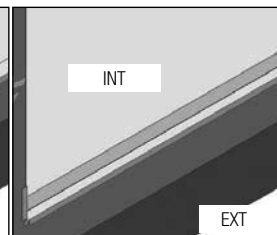

FIG. 9
- F) Flashing must cover the entire sill plate. If needed, apply an additional flashing piece over the first one (*start from the exterior and work toward the interior*). Maintain a minimum 1" overlap. (Fig. 9)